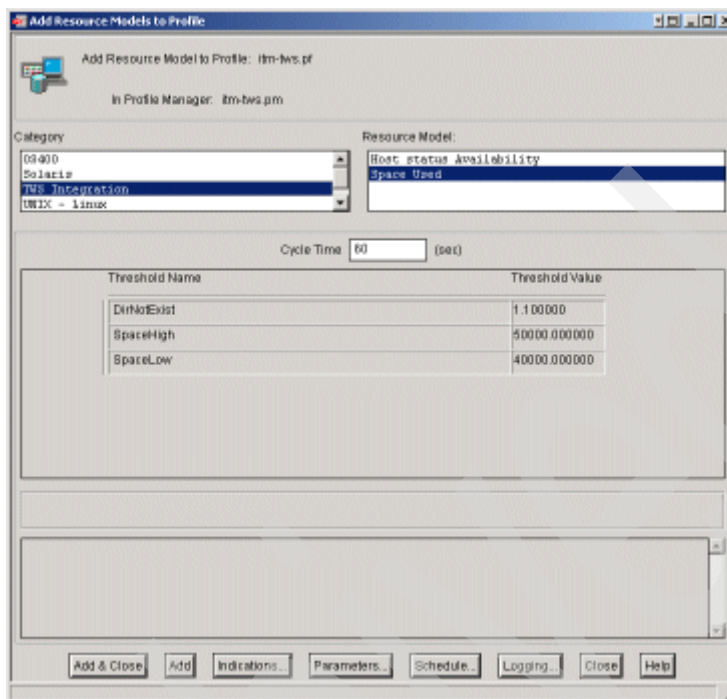

Figure 9-123 Selecting Space Used custom resource model
3. Select **TWS Integration** in the Category list on the left-hand side of the window, and ensure Space Used is selected in the Resource Model list on the right-hand side of the window as shown in Figure 9-123 on page 524.